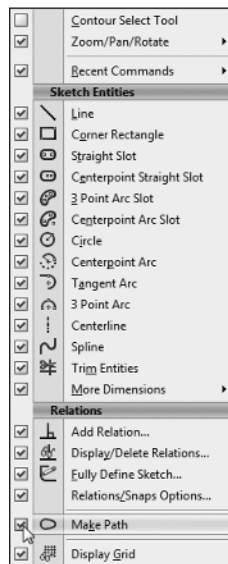

FIGURE 1.36 Customizing a shortcut menu
3. Click an empty box next to the menu item you want to be shown. The empty box will be updated to include a check mark (see Figure 1.36).